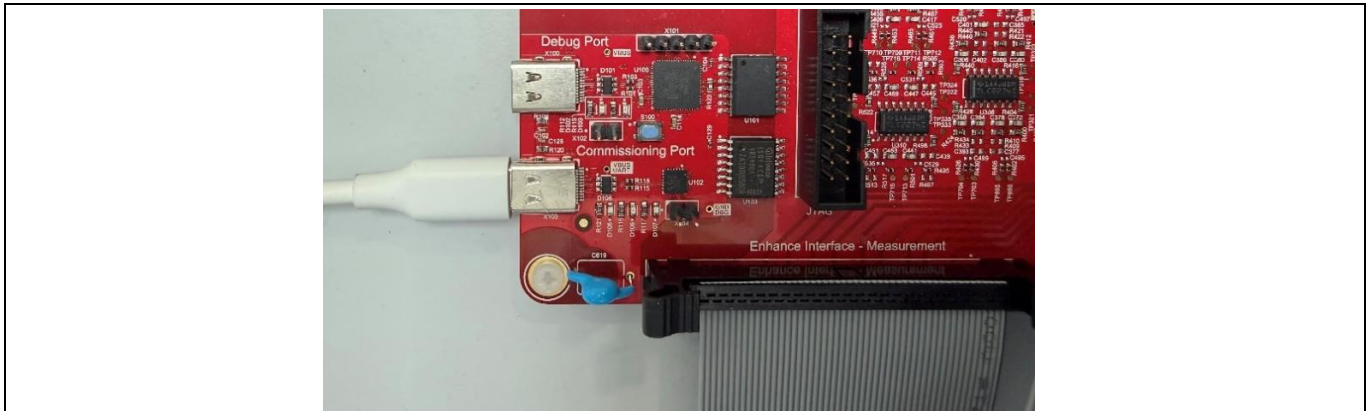

Figure 42 Commissioning port on Control board
3. Connect a USB cable via the commissioning port of the control board to the PC (Figure 42)